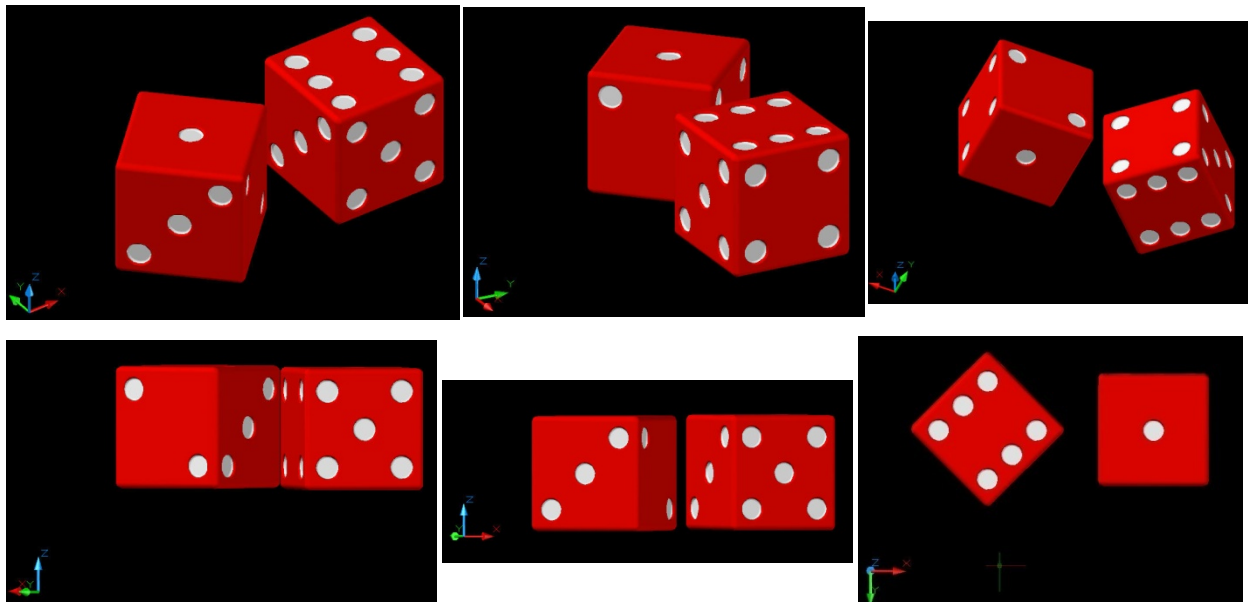

Figure 6. Try to Create the Views Above
3. Try to closely match some of the views presented below in Figure 6. As you are doing so, be sure to pay attention to the UCS icon “tripod”. It can be a very handy tool, providing hints as to which way you might need to drag the cursor to obtain the desired view.